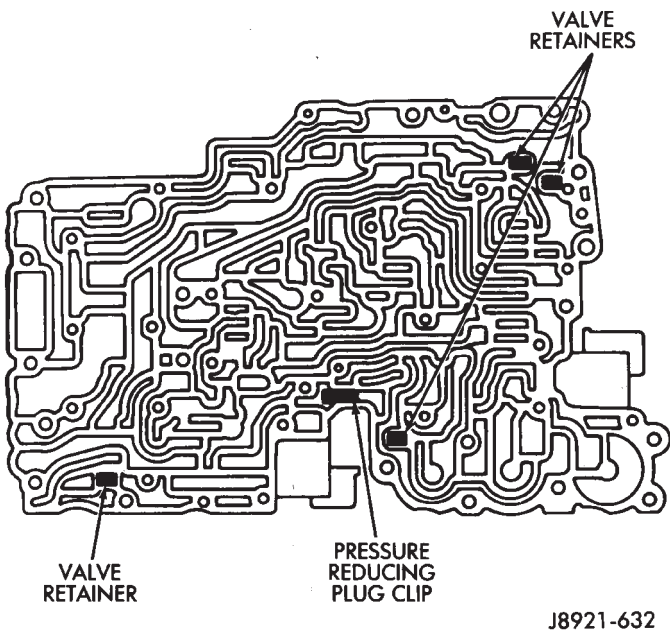

Fig. 2 Valve Retainer And Clip Location
(3) Note or mark position of valve retainers and pressure reducing plug clip for assembly reference (Fig. 2). Do not remove the retainers at this time.
(4) Remove solenoid No. 1, 2 and 3. Discard solenoid O-rings.